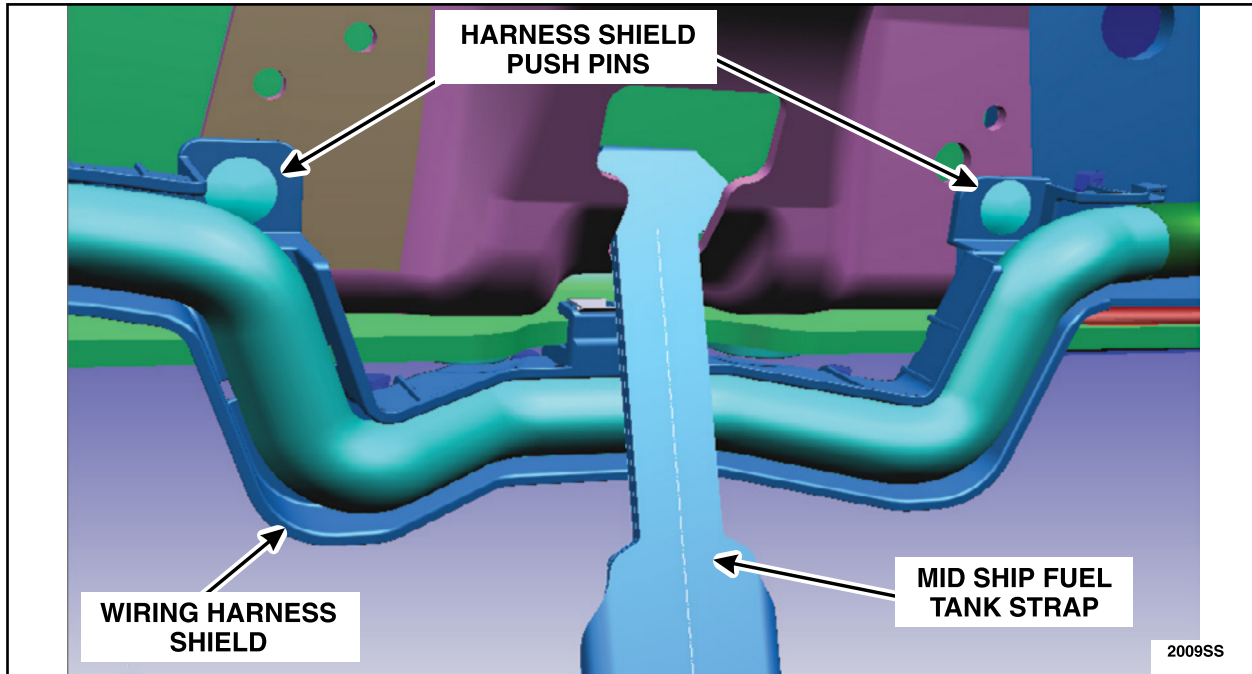

FIGURE 38
1. From the left hand side lower frame rail, remove the harness shield push pins as shown in Figure 38.